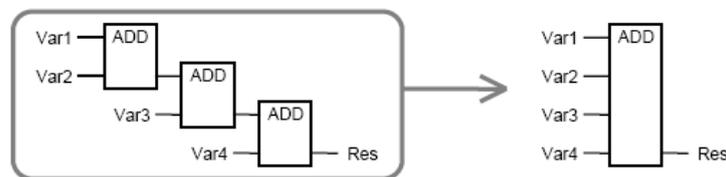

Figure 9-1-2 Extend Inputs of Operators
- Increasing the number of inputs can simplify programming, as shown in figure 9-1-2.